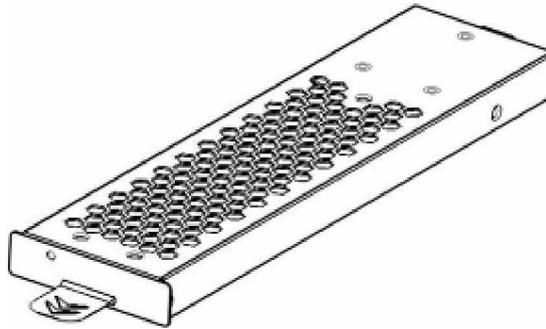

Figure 1-14: BBU
The DUAL CTRLR models houses two (2) and the SINGLE CTRLR models house one (1) standard Li-Ion battery backup units (BBUs). (See **Figure 1-14**) The BBUs are pre-installed in the controller head next to the controller module and can sustain cache memory after a power failure. Each BBU has a plastic tab in the front for easy module removal.